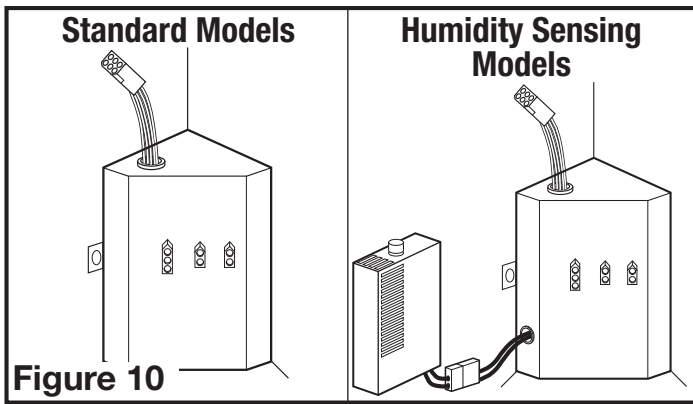

Figure 10
- 3b. From where you have chosen to access the fan's junction box, connect the white wire from the house to the white wire from the fan. Connect the wire from the automatic position on the wall switch to the black wire from the fan, connect the wire from the manual On position on the switch to the yellow wire from the fan. Connect the ground wire from the house to the green wire from the fan housing (**Figure 10**). Use approved methods for all connections.
- 3a. **STANDARD MODELS:** Plug the fan's 2 pin and 3 pin quick connect motor cords into the corresponding receptacle located on the wire compartment cover. These cords will only fit one way into the receptacles (**Figure 10**).
- 3b. **HUMIDITY SENSING MODELS:** Plug the fan's 2 pin and 3 pin quick connect motor cords into the corresponding receptacle located on the wire compartment cover. Connect the two pin connector from the humidistat compartment to the two pin connector from the side of the wire compartment cover. These cords will only fit one way into the receptacles (Figure 10).